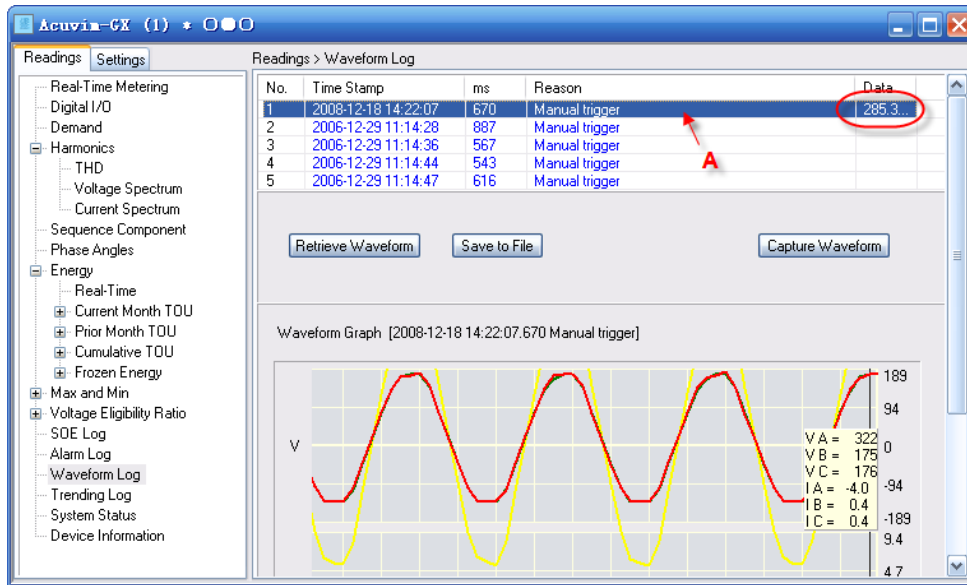

Figure 5.5.10. Waveform Log (2)
- 2) An item whose data field is not empty may be selected. Its waveform will be displayed as shown in Figure 5.5.10. Section A means to click an item with